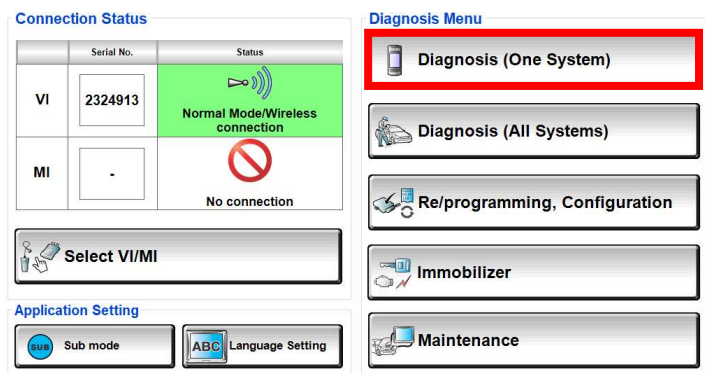

Figure 1
2. Select **Diagnosis (One System)**. (Figure 1)